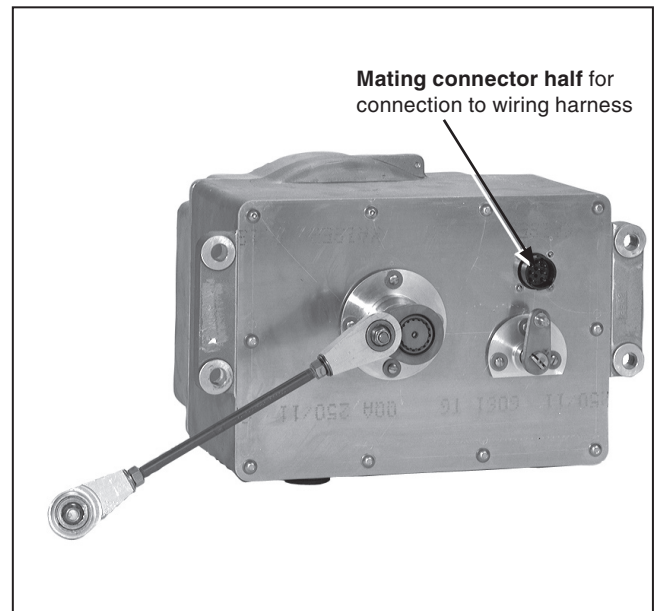

Figure 10. Reattaching connectors from the harness to the operating mechanism.
STEP 10. Reconnect the circular plastic connector from the wiring harness to the mating connector half on the back of the operating mechanism. First, visually align the two retainers on the plastic harness connector to the two tabs of the mating connector on the mechanism, along with the proper internal pin alignment. Then, push the harness connector down on the mechanism connector with a left to right rocking motion to seat the tabs into the retainers. A distinct and audible “snap-snap” indicates the mechanism connector and the harness connector are properly seated. Finally, pull hard on the harness connector to ensure the connection is tight. See Figure 10.